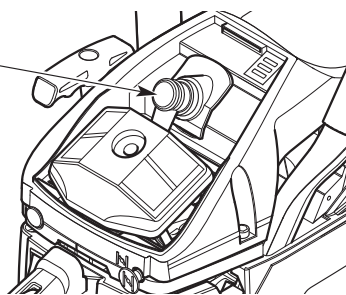

Fig. 44
4. Grasp the spark plug boot firmly and pull it from the spark plug (Fig. 44).